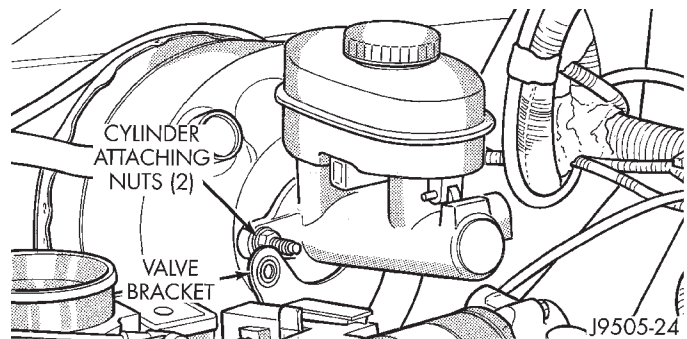

Fig. 22 Master Cylinder Mounting
(1) Remove brakelines from master cylinder.
(2) Remove combination valve.
(3) Remove nuts that attach master cylinder to booster studs (Fig. 22). **Retain nuts as they are special locking types.**